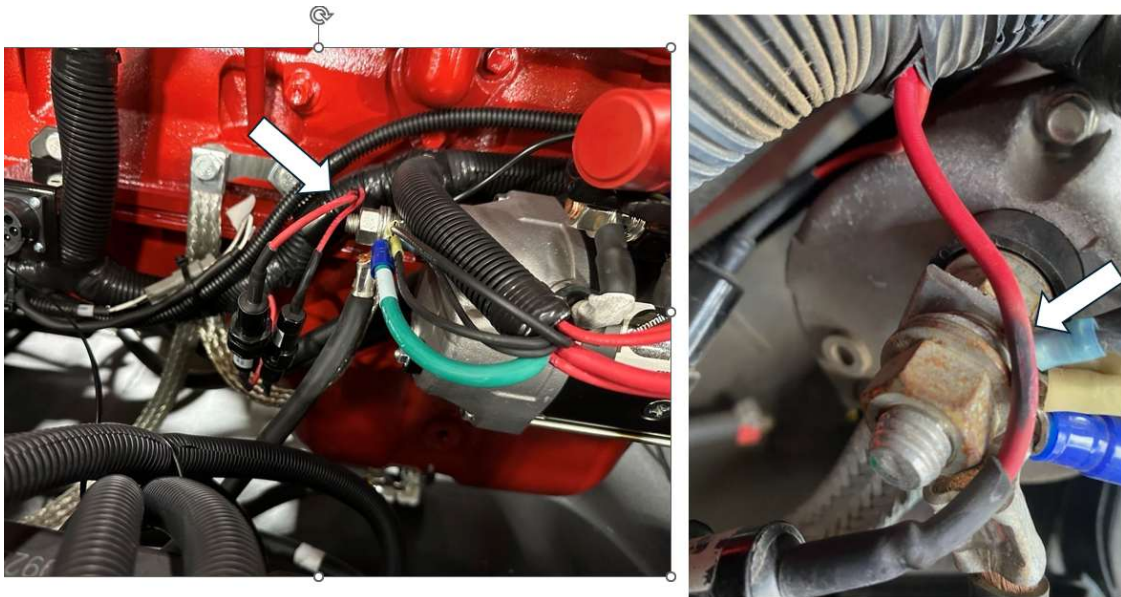

Figure 2: Example of exposed red wires touching the terminal stud of the starter motor, and resulting chafing damage
4. If the red wires are touching the housing or terminal stud of the starter motor, or if the red wires show signs of chafing or damage, DO NOT use the unit until repaired by a certified Cummins repair facility. An example of the exposed red wires touching the terminal stud of the starter motor, and the resulting chafing damage to the wire insulation, is shown in Figure 2. An example of the exposed red wires touching the housing of the starter motor is shown in Figure 3.